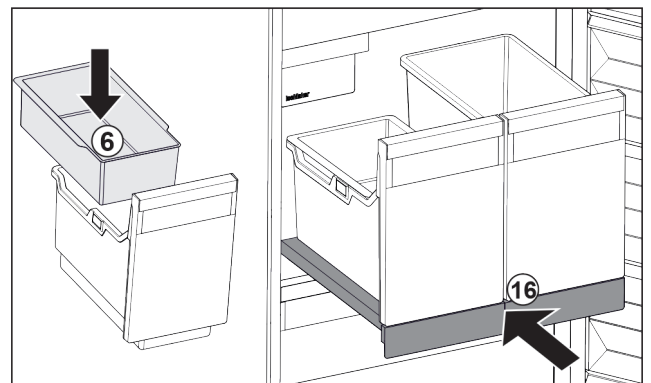

Fig. 201
- ▶ Insert hang-on tray Fig. 201 (6) for ice cubes.
- ▶ Slide in the pull-out board with (IceTower) container. Fig. 201 (16)